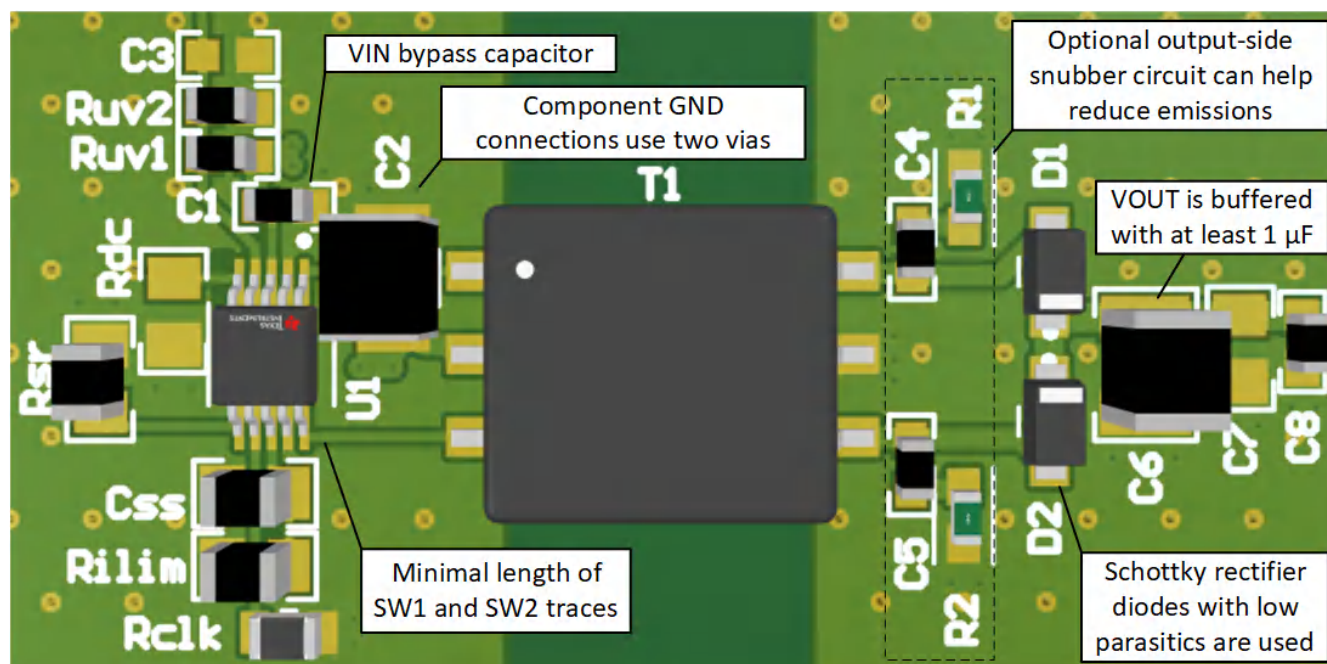

Figure 9-10. Layout Example of a 2-Layer Board
- The optimum placement is closest to the V_{IN} and GND pins at the board entrance to minimize the loop area formed by the bypass-capacitor connection, the V_{IN} terminal, and the GND pin. See Figure 9-10 for a PCB layout example.